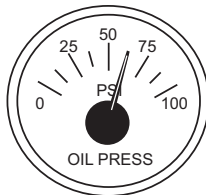

Figure 50. Oil Pressure Gauge
7. The **engine oil pressure gauge** (Figure 50) will indicate the oil pressure of the engine. Under normal operating conditions the oil pressure should be approximately 39 psi (270 kPa).